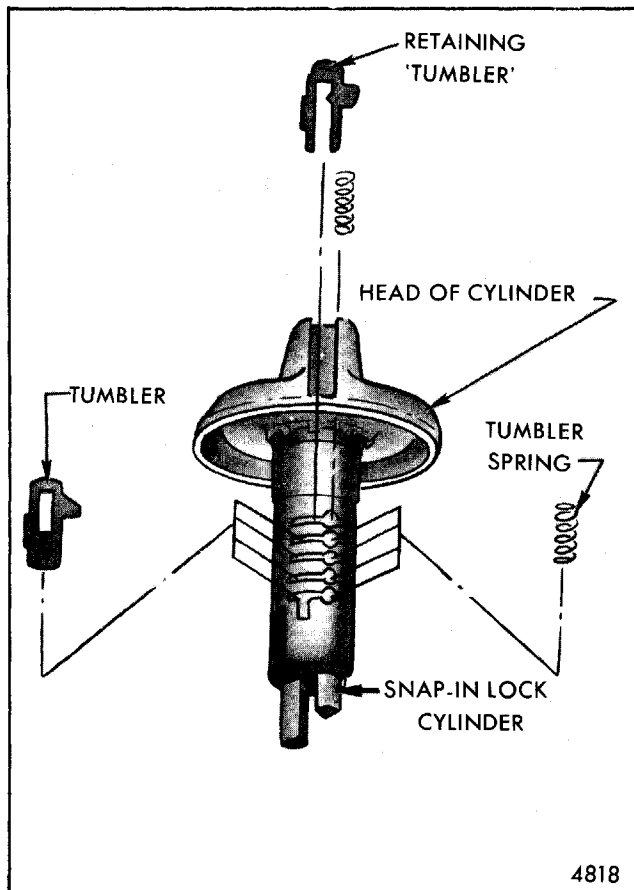

Fig. 1-7-Installing Tumblers
2. Starting at open end (head) of cylinder, insert tumbler spring and retainer tumbler in first position, then proceed to insert tumbler springs and tumblers in their proper slots in the order previously determined by code, as shown in Figure 1-7.